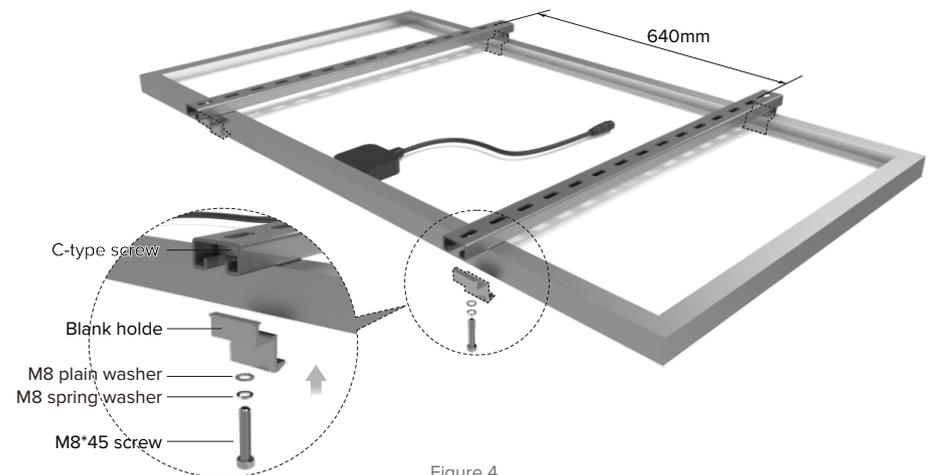

Figure 4
- 2 Using 4pcs blank-holders, M8*40 screw, M8 spring washer, M8 plain washer, C-type screw nut to fasten the solar panel frame by the two cross-bars, adjusting the two cross-bars center distance to 640mm and mediate the solar panel. as shown in figure 4.